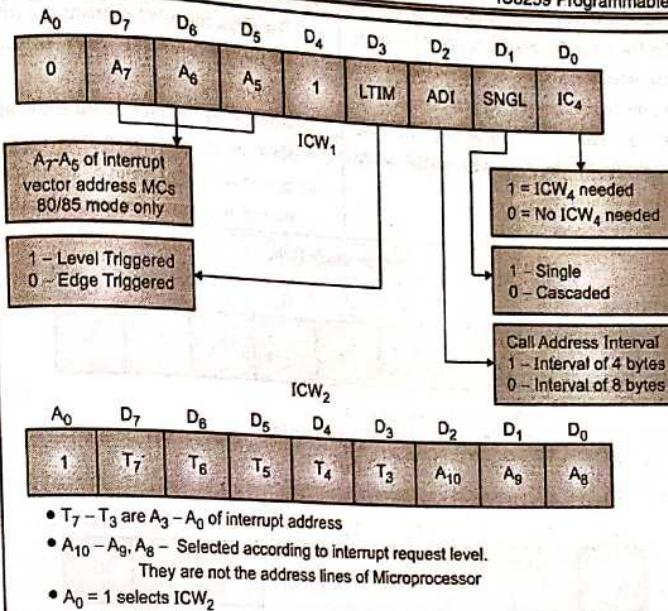

Fig. 8.6.2
The Fig. 8.6.2 below show the formats of ICWs and OCWs.
8.6.1(A) ICW1
- ICW1 is compulsory as seen in Fig 8.6.2. The address bit, A₀ must be '0' while giving the Initialization control word 1 to the 8259 chip.
8.6.1(B) ICW2
- ICW2 is compulsory as seen in Fig 8.6.2. The address bit, A₀ must be '1' while giving the Initialization control word 2 to the 8259 chip.
8.6.1(C) ICW3